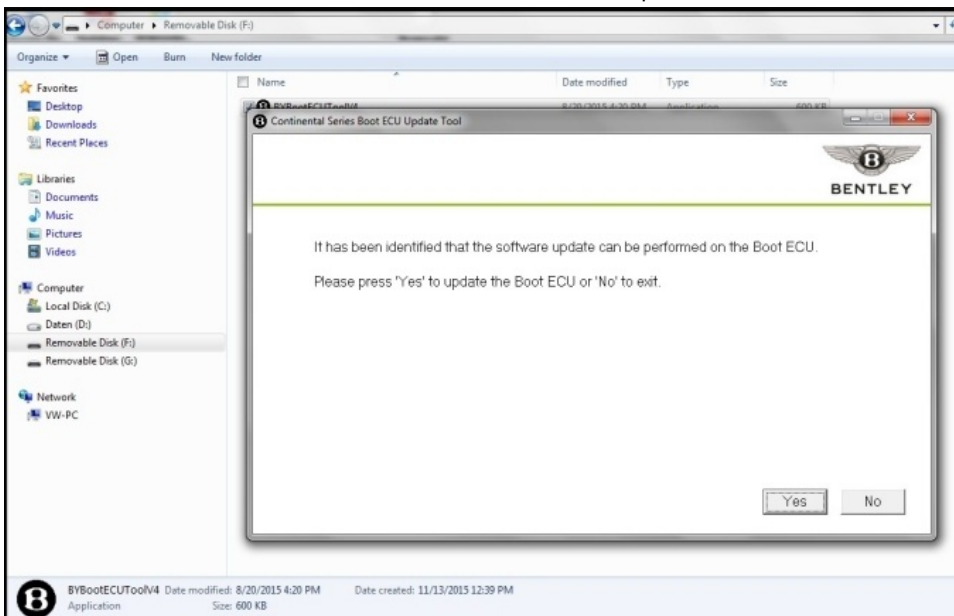

Figure 6
12. Select Yes to update (see Figure 6)